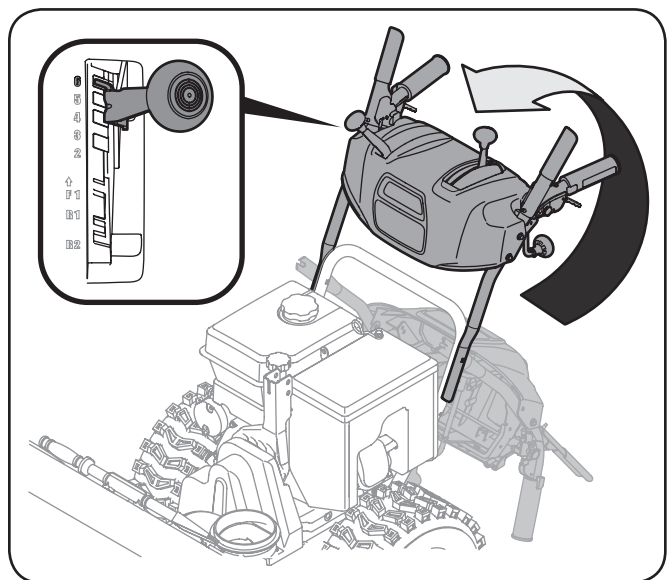

Figure 3-12
4. Remove rubber bands securing cables to carriage screws and cut zip tie securing shift rod to lower handle. Carefully pivot the handle upward. See Figure 3-12.